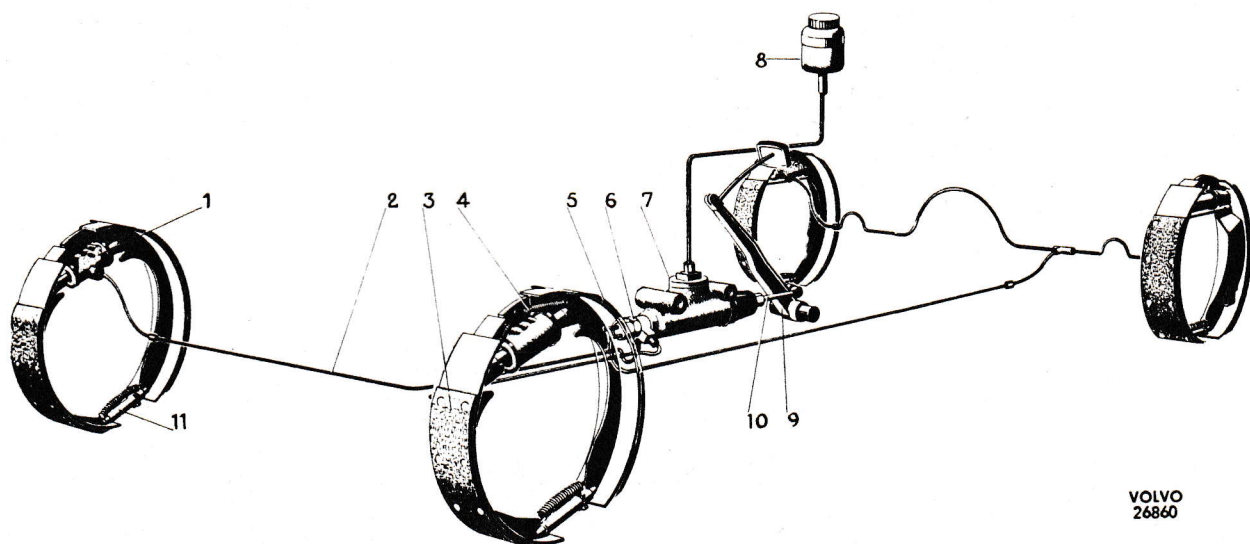

Fig. 1. Footbrake system.
The lay-out of the brake system is shown in Figs. 1—5.
When the brake pedal (9, Fig. 1) is depressed it actuates the plunger in the master cylinder (7) by means of a link rod (10) and thrust rod. The hydraulic pressure in the master cylinder increases